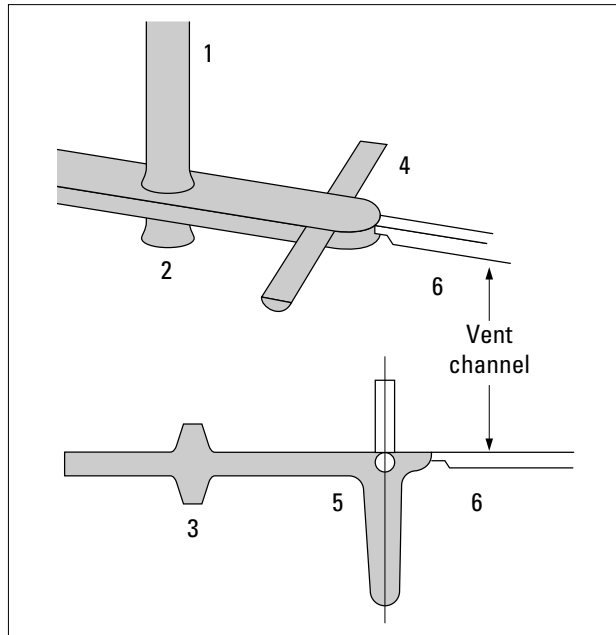
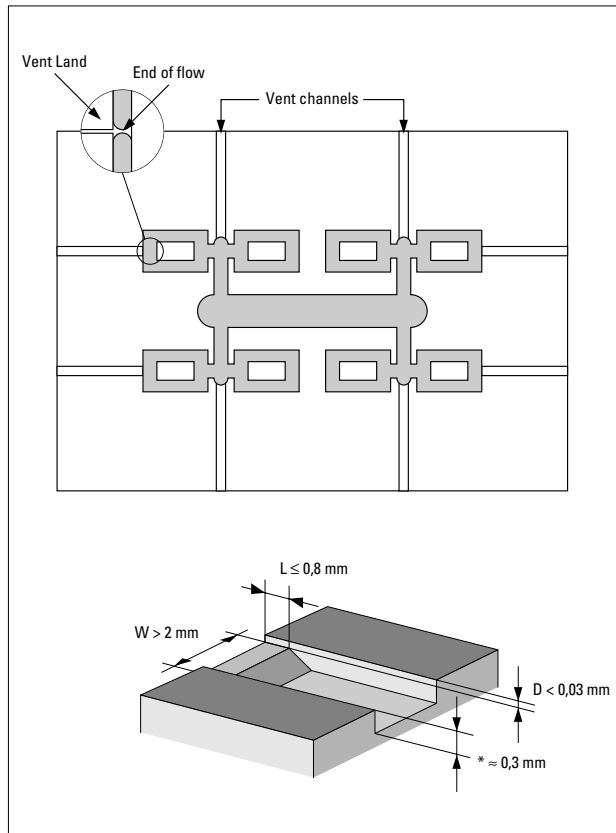

Fig. 4.15 Key rules for the design of the sprue and runners of a 2 plate mould (top) and of a 3 plate mould (bottom)
Fig. 4.17 Recommended venting of a part and of its runner system
7. Runners should be properly vented, see Fig. 4.15, 4.16 and Fig. 4.17.
The drawings in Fig. 4.17 show the recommended dimensions for vents in cavities for DELRIN®.